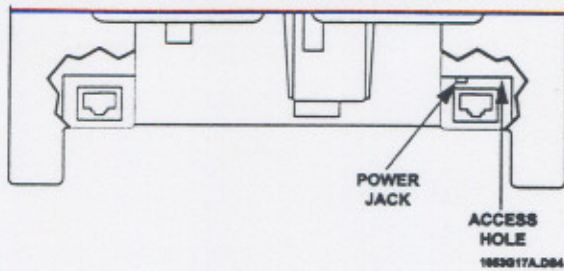

Figure 2. Access Hole Location on Back of Base
- 1) Insert a 4-conductor cable into the access hole located next to the POWER JACK on the back of the base (see Figure 2).